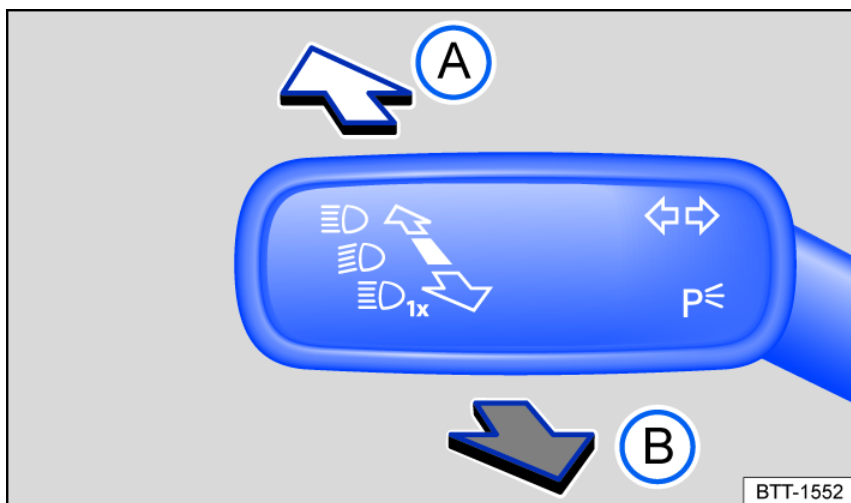

Fig. 81 On the left side of the steering column: turn signal and high beam lever.
- Move the turn signal and high beam lever from the center position to the following position *fig. 81*: